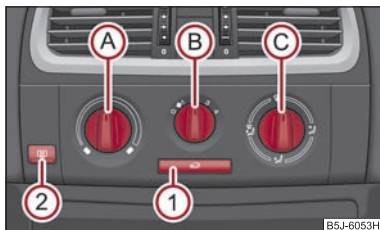

Fig. 90 Heating: Control elements
You can set the air supply to the individual vents with the air distribution control ⇒ page 81, fig. 90. Air outlet vents 3 and 4 can also be opened or closed individually.
- Turn the control dial **(A)** ⇒ fig. 90 to the right in order to increase the temperature.